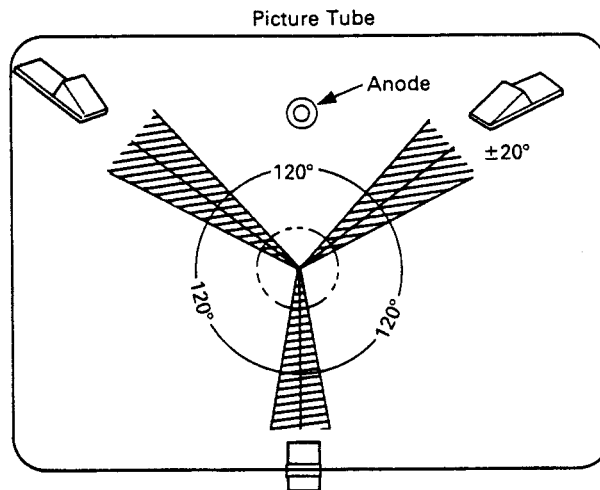

Fig. 14 - 8
- (4) Push the three rubber wedges between the picture tube cone and the deflection yoke at the positions indicated in Fig. 14 - 8.